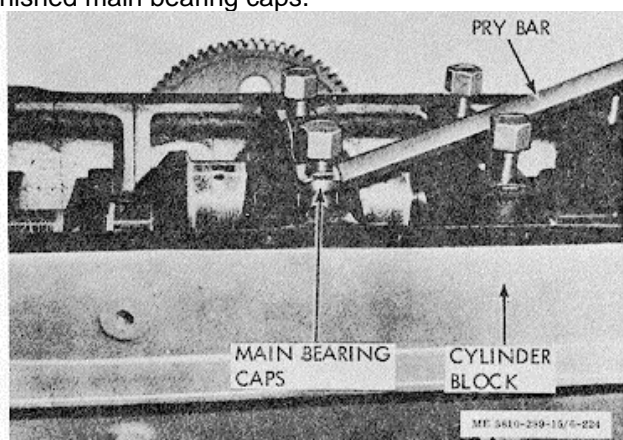
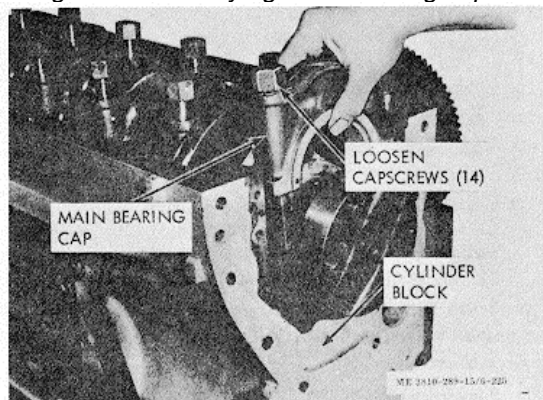

Figure 3-216. Prying main bearing caps loose.
Figure 3-217. Removal of main bearing caps from block.
(1) Refer to paragraph 3-43 and remove the connecting rods.
(2) Turn engine so bottom side is up; loosen capscrews securing caps to block, leaving two or three threads engaged in block to pilot caps as they are removed.
(3) Pry each cap loose with pry bar (fig. 3-216); remove capscrews and lockplates and lift caps from block (fig. 3-217).